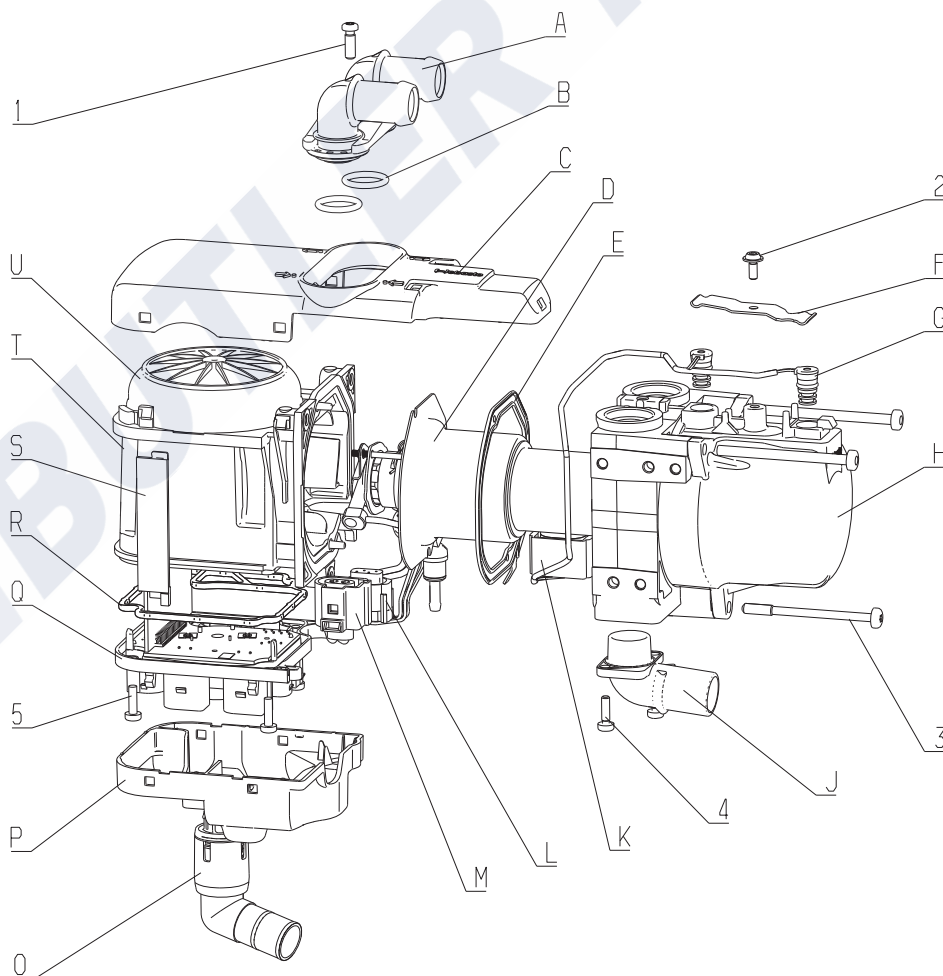
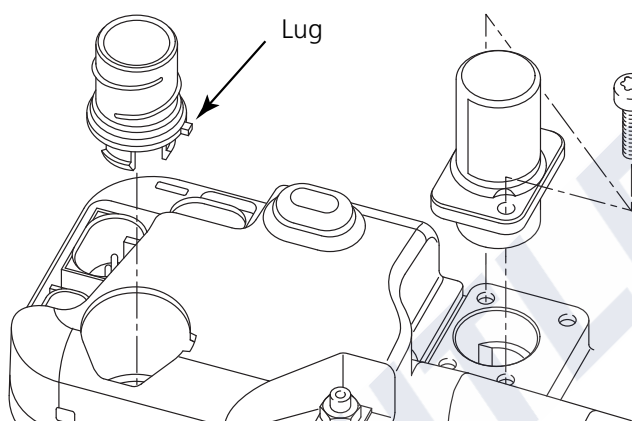

Fig. 901 Dismantling heater
Fig. 902 Installing air-intake and exhaust connection piece
1. Loosen screw (1, Fig. 901) and remove water connection piece unit (A) with O-rings (B).
2. Loosen screw (4) and remove exhaust connection piece (J) from heat exchanger (H). This work step is eliminated with a fixed exhaust connection piece.
3. Loosen heater cover (C) at 4 side detents on fan housing (T) with a screwdriver. Then remove heater cover (C) from heater toward front.
4. Remove cable cover (S) from fan housing (T).
5. Press air-intake connection piece (O) slightly to side and pull out of control unit (Q) in axial direction.
6. Release connector cover (P) on side facing away from fuel connection piece at side detents with a screwdriver and take off heater.
7. Loosen detent of connector (K, L, M) and pull connector off control unit (Q).
8. Loosen screws (3) and pull heat exchanger (H) off fan housing (T) in axial direction of screw fitting.
9. For information on removing the burner (D), see section 9.2.5.
10. For information on removing temperature sensor and overheating sensor (G), see section 9.2.8.
1. For information on installing new temperature sensors (G, Fig. 901), see section 9.2.9.
2. For information on installing burner (D), see section 9.2.7.
3. Clean heat exchanger (H) inside and outside and place on fan. Tighten screws (3) with 7 ± 0.7 Nm and do not cut new thread if possible when doing so (i.e. turn screw into existing thread).
5. Place connector cover (P) on control unit (Q) and engage with light pressure.
6. Insert air-intake connection piece (O) into control unit (Q). In the process, the lug of the connection piece (O) must be guided into the opening provided (facing in direction of fuel connection piece). See Fig. 902.
It is not permissible to remove parts of the fan housing (T, Fig. 901)!
3. Loosen screw (2, Fig. 901).
4. Remove retaining spring (F) and pull sensors out of heat exchanger (sensors are not accessible from inside). Do not pull on plastic head or cable when doing so.